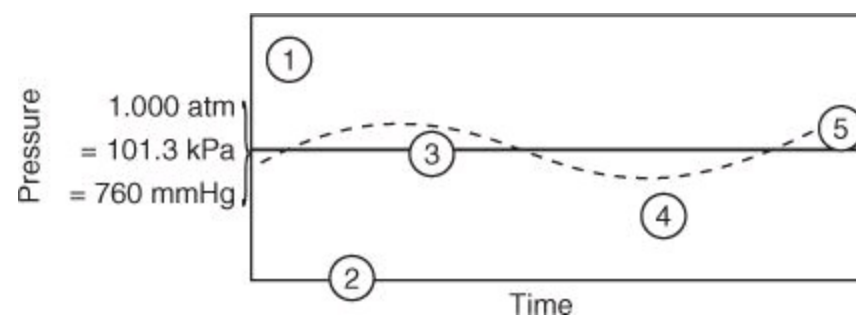

Figure 2.5. Pressure terminology
Figure 2.5 illustrates the relationships among the pressure concepts. Note that the vertical scale is exaggerated for illustrative purposes. The dashed line illustrates the atmospheric (barometric) pressure, which changes from time to time. The solid horizontal line is the standard atmosphere. Point (1) in the figure denotes a pressure of 19.3 psia, that is, an absolute pressure referred to zero absolute pressure, or 4.6 psig (i.e., 19.3 psia – 14.7 psia) referred to the barometric pressure; (2) is zero pressure; any point on the heavy line such as (3) is a point corresponding to the standard pressure and is below atmospheric pressure; (4) illustrates a negative relative pressure, that is, a pressure less than atmospheric pressure. This latter type of measurement is described below as a vacuum measurement. Point (5) indicates negative relative pressure that is above the standard atmospheric pressure.